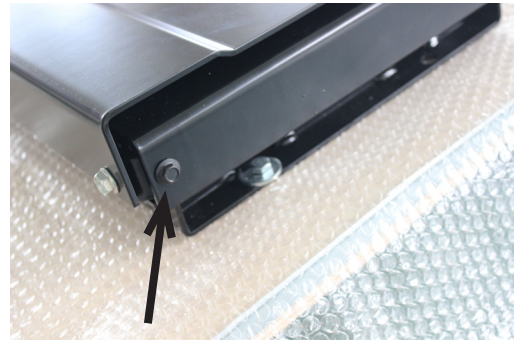

Figure 9 - Remove the bolt
8. Remove the bolt to let WHEEL TRAY move free (fig 9)